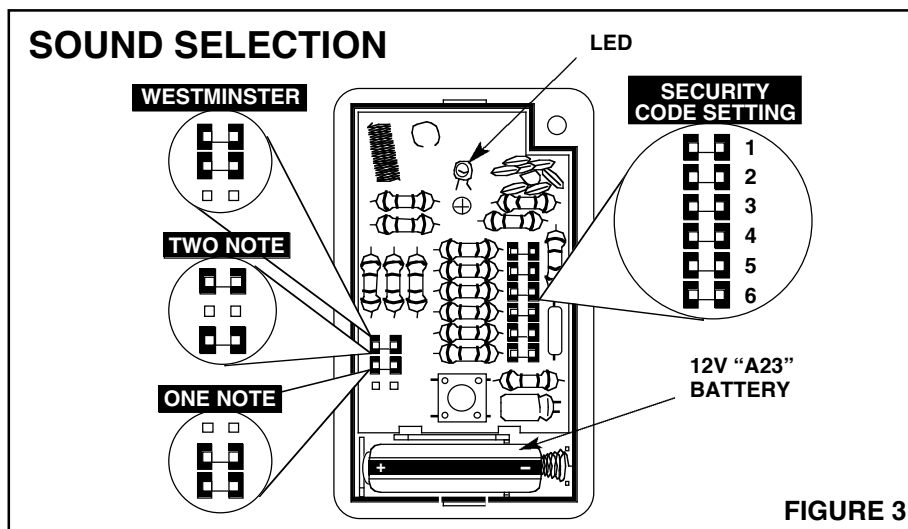

FIGURE 3
Refer to Figure 3.
2. Select the desired sound as illustrated in Figure 3.
Voir la Figure 3.